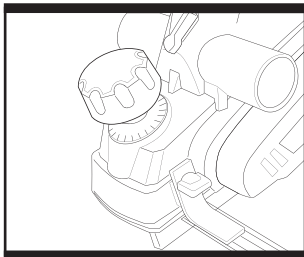

Fig. 4
3. TO ADJUST PLANING DEPTH (Fig. 4)